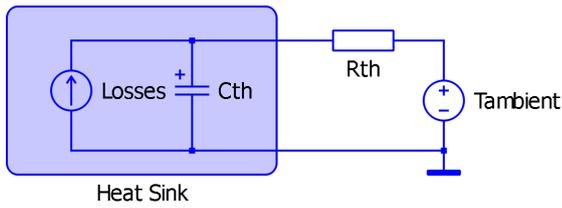

Figure 2: Electrical equivalent of thermal circuit
To perform a thermal simulation using PLECS, three components are needed: a Heat Sink, semiconductor component(s) with a thermal description and an Ambient Temperature. The thermal simulation takes place at the same time as the circuit simulation but the thermal components are represented in PLECS in a separate domain. The thermal quantities and their analogous electrical equivalents are given in Table 2. In the analogous electrical circuit, conduction losses of a component are modeled as an ideal current source, the thermal impedance between the component and air as a simple resistor or RC chain, and the ambient temperature as a voltage source. This equivalent circuit is shown in Fig. 2.
- 1 For this next step you will need to take a screenshot image of **Figure 2** for importing into the Thermal Editor. An image file C3M0065090J_datasheet_figure2_conduction_loss_25C.png has been provided already. Highlight the 25°C temperature row and click on the  button in the top-right corner of the plot area.